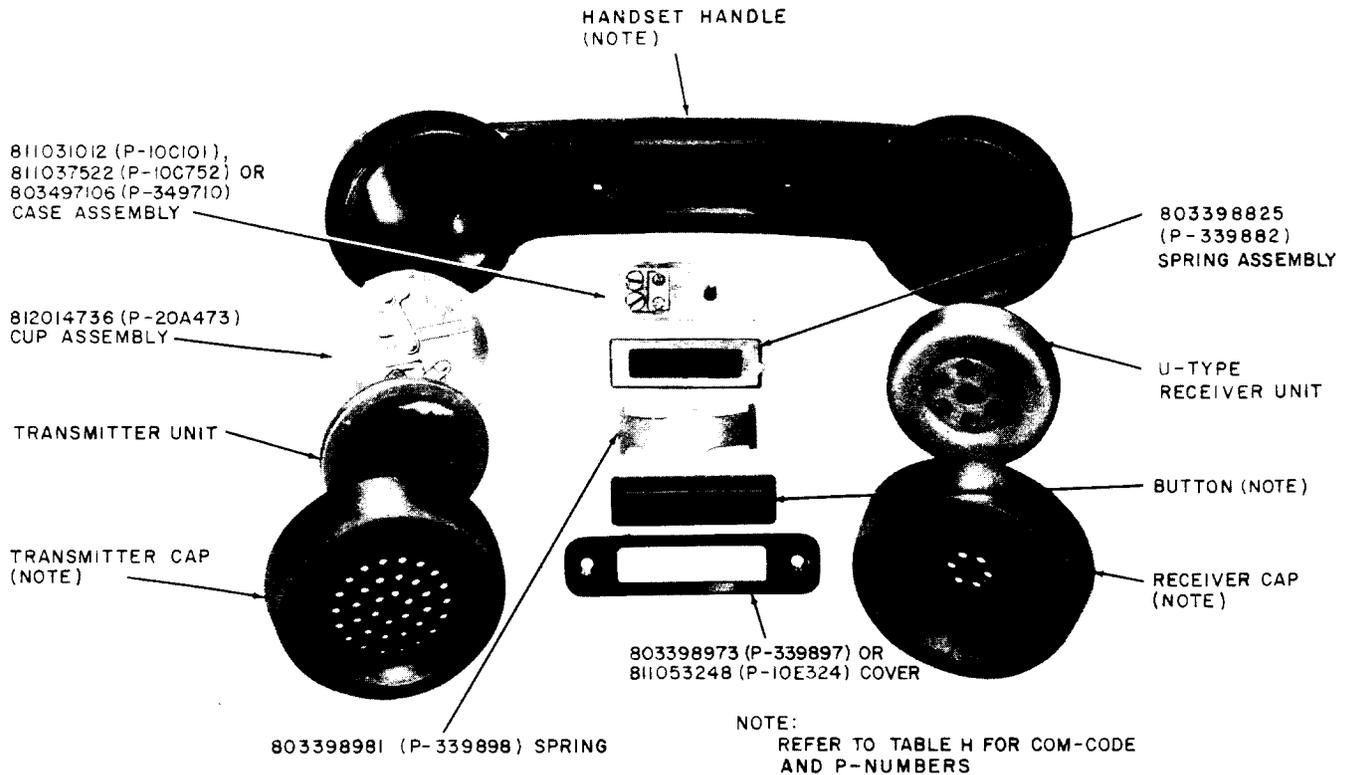

Fig. 8—G5-Type Handset Assembly
2.20 The G5-type handsets (Fig. 8) are equipped with a pushbar switch located in the handle. The pushbar switch is wired for push-to-talk, push-to-listen, or to control an external function.